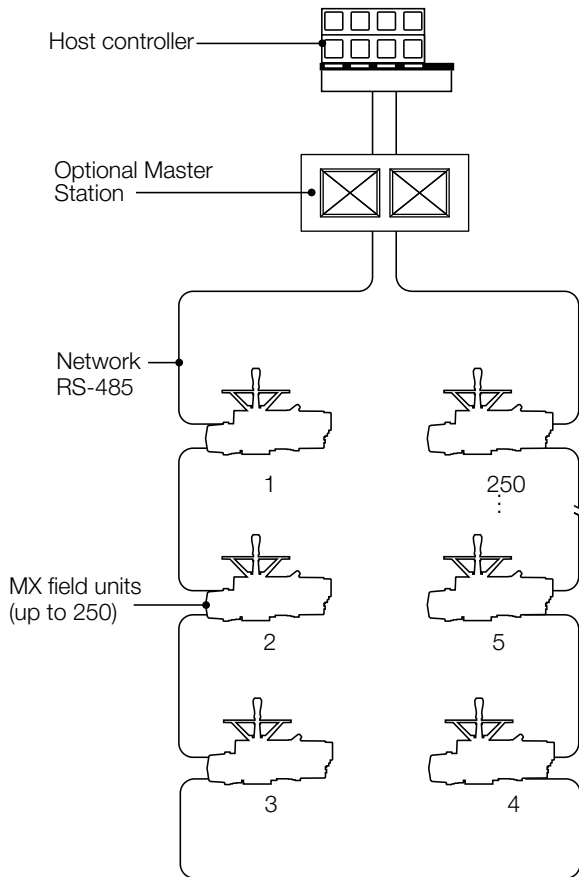

Figure 1.1 – Typical Modbus system with or without a Master Station
Limitorque's Modbus valve control network supports up to 250 actuators over a single twisted-pair cable using Modbus™ protocol. MX actuators and other devices can be accessed from a control room for integration with a plant asset management (PAM) system, distributed control system (DCS), programmable logic controller (PLC), or personal computer (PC) based network. The Modbus system consists of a host system, controller, network, and field units. A typical Modbus system is shown in **Figure 1.1**.